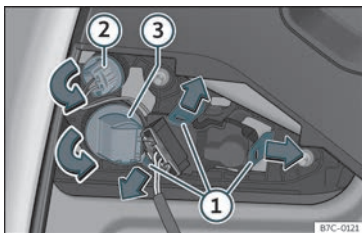

Fig. 50 Remove the bulb holder.
- Unlock the securing tabs from the bulb holder >>> **Fig. 50** ① or turn the bulb holder to the left ② and ③.